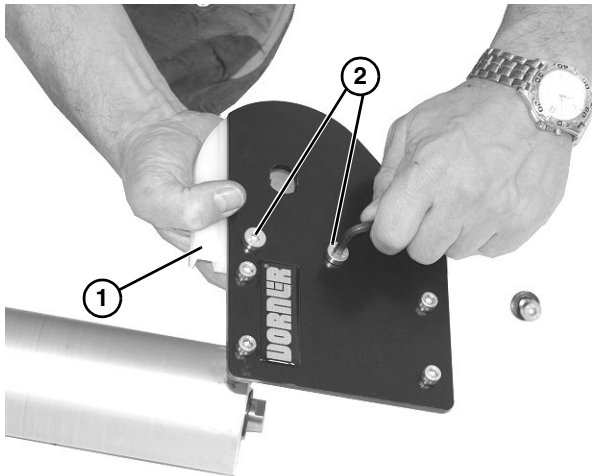

Figure 45
7. Check idler terminal assembly (**Figure 45, item 1**) for wear. If worn, remove two low head cap screws (**Figure 45, item 2**) and replace.